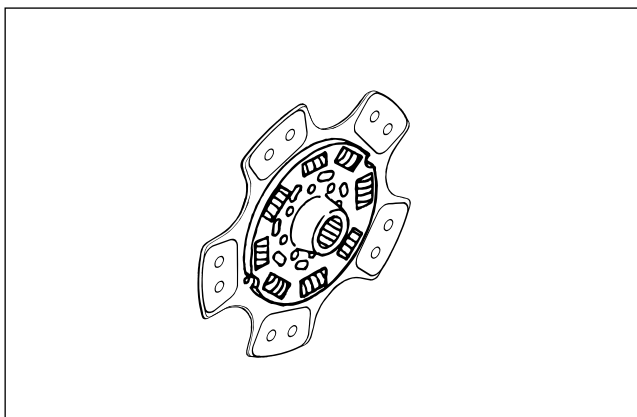

Figure 7. Driven Plate
↔ Remove or Disconnect (Figure 7, 8 and 9)
2. Pressure plate assembly. (2)
3. Clutch Disc assembly. (1) (Figure 7)